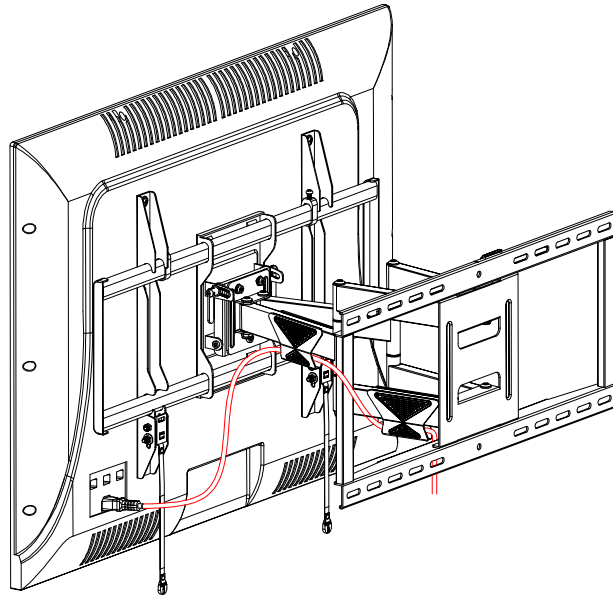

Figure 8
**Step 7:** Manage TV cables orderly and guide them through the velcros. (Figure 8)